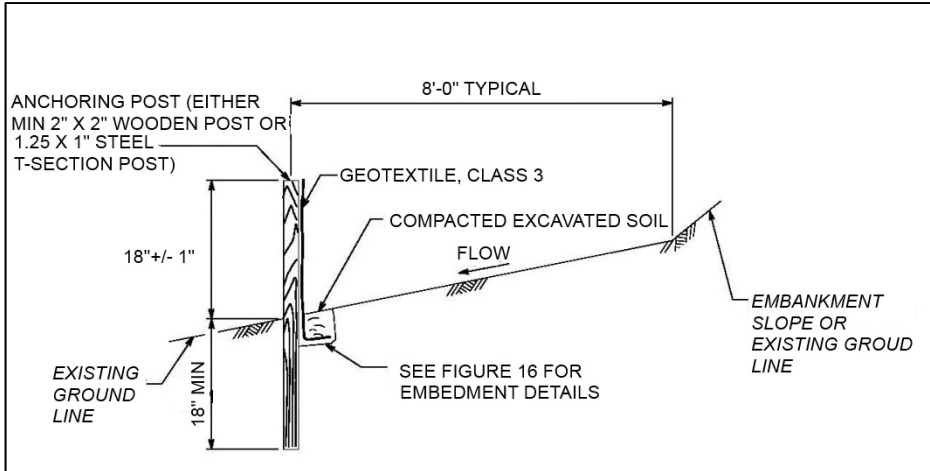

Figure 15: Standard Silt Barrier Fence 18 Inch High
- Install downslope of all disturbances in existing ground, and parallel to existing contours (**Figure 15**).